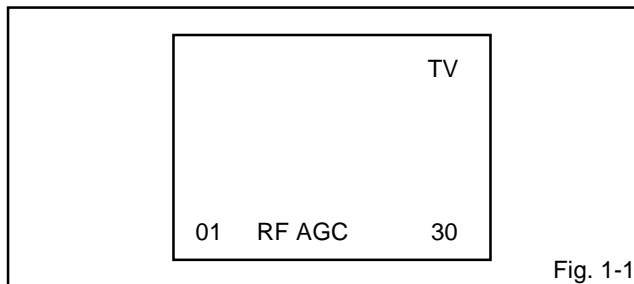

Fig. 1-1
2. Press the VOL. DOWN button on the set and the channel button **(9)** on the remote control for more than 2 seconds to display adjustment mode on the screen as shown in **Fig. 1-1**.
3. Activate the adjustment mode display of **Fig. 1-1** and press the channel button **(13)** on the remote control to select "VCO COARSE".
4. Activate the adjustment mode display of **Fig. 1-1** and press the channel button (**01**) on the remote control to select "RF AGC".
3. Activate the adjustment mode display of **Fig. 1-1** and press the channel button (**08**) on the remote control to select "H POSI (50)".
3. Activate the adjustment mode display of **Fig. 1-1** and press the channel button (**11**) on the remote control to select "V SIZE (50)".
2. Activate the adjustment mode display of **Fig. 1-1** and press the channel button (**31**) on the remote control to select "H POS OSD".
4. Activate the adjustment mode display of **Fig. 1-1** and press the channel button (**00**) on the remote control to select "CUT OFF".